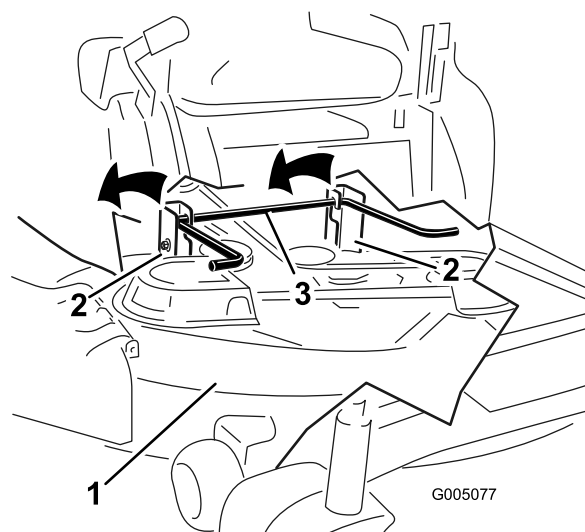

Figure 68
5. Lift the mower deck and hanger brackets clear of the rear lift rod and lower the mower carefully to the ground (Figure 68).
- Lift the rear of the mower deck and guide the hanger brackets over the rear lift rod (Figure 68).